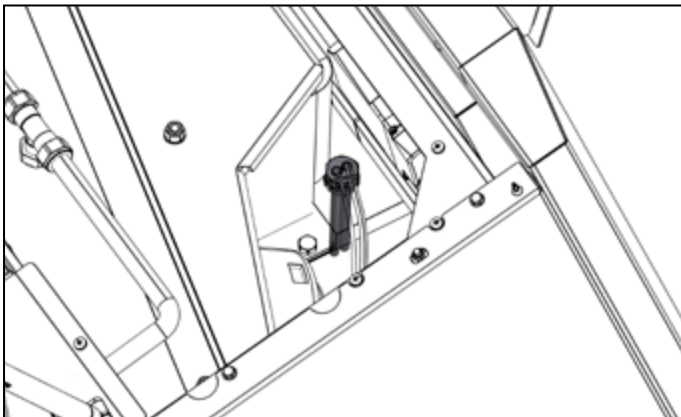

Figure 11-3: Overheat thermostat and thermistor location
- The pocket, containing both the boiler control thermistor sensor and overheat thermostat bulb, is located in the upper left front of the boiler, to the left of the heat exchanger housing. Refer to Figure 11-3.